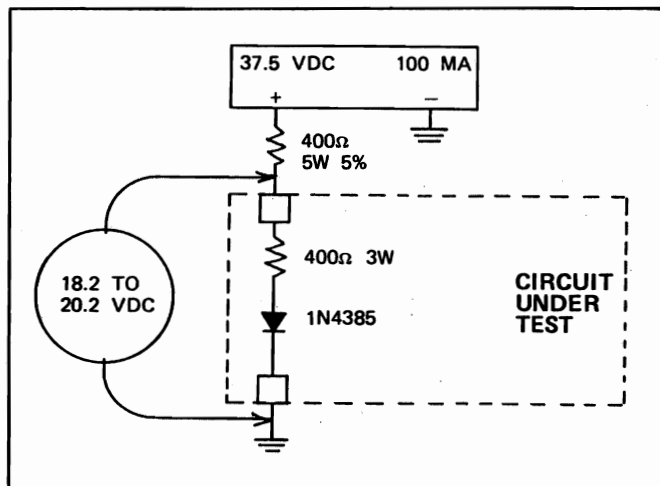

FIG. 13-62. TEST CIRCUIT NO.2 FD717 CARD. E-19649
6. Connect test circuit No. 2, shown in Fig. 13-62, to the FD717 card.
8. Measure 18.2 to 20.2 vdc between the points indicated on the Fig. 13-62 diagram.